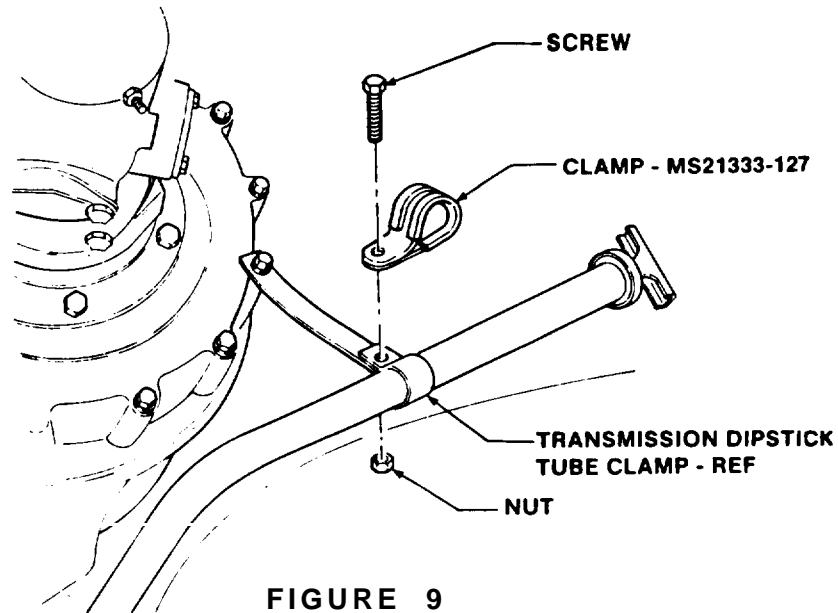

FIGURE 9
(16) Install MS21333-127 clamp on transmission dipstick tube clamp and secure with nut and screw (removed in step (15) as shown in figure 9).